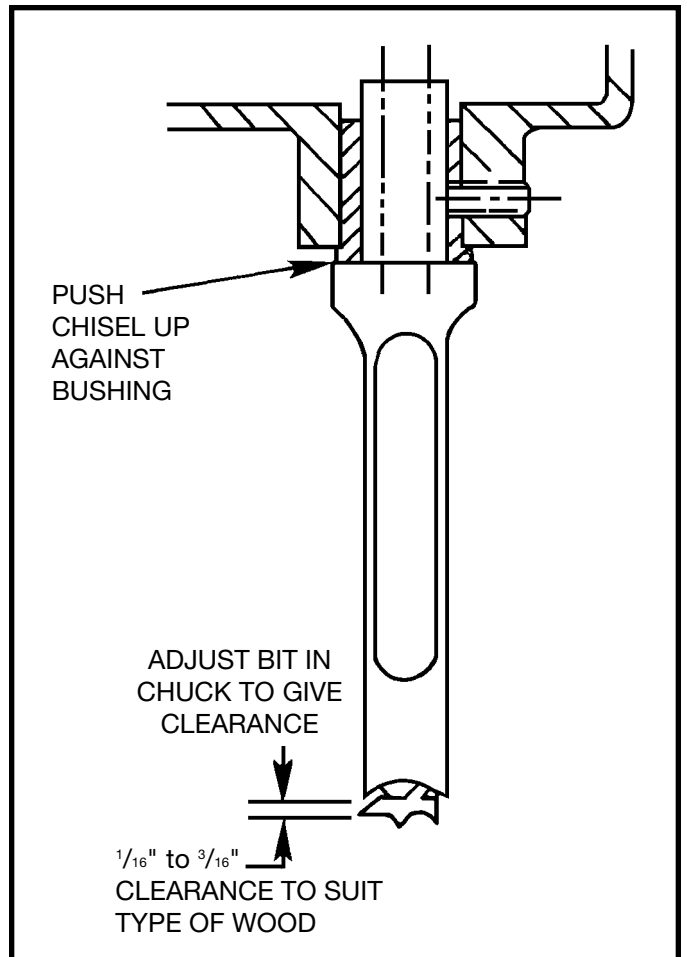

Fig. 25
6. The flat portion of the bit should be adjusted to a minimum of 1/16" away from the bottom of the chisel, as shown in Fig. 25. For certain types of wood it may be necessary to increase this distance up to a maximum of 3/16" clearance. This method assures having proper clearance between the cutting lips of the bit and the points of the chisel.